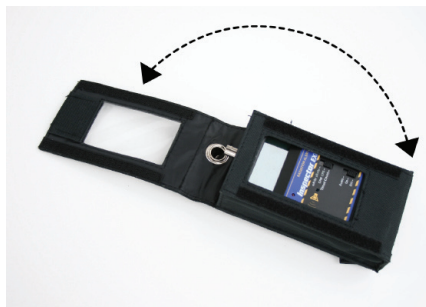

Figure 4
The SEI Inspector EXP uses a two-inch, thin window Geiger tube, commonly called a “pancake tube.” The screen on the probe of the SEI Inspector EXP is called the window *Figure 4 (1)*. It allows alpha and low-energy beta and gamma radiation, which cannot get through the metal probe handle, to penetrate the mica surface of the tube. The small radiation symbol on the back of the probe indicates the center of the Geiger tube.
Before starting the SEI Inspector EXP, ensure that the external probe is connected both to the unit and the probe end. Install a standard 9-volt alkaline battery in the battery compartment located in the lower rear (Figure 4). *Note: Place the battery against the bottom wall, and make sure the wires are placed along the side of the battery and not under it.*